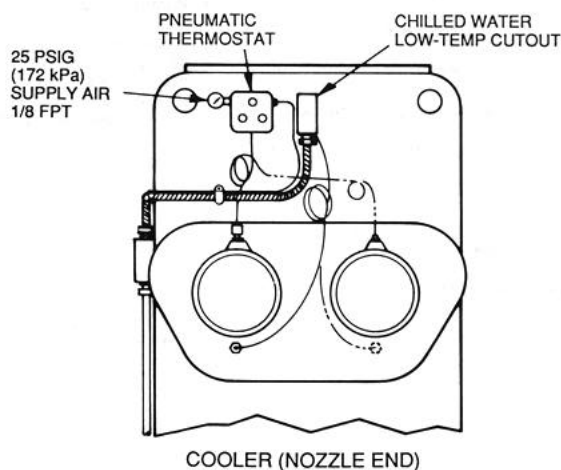
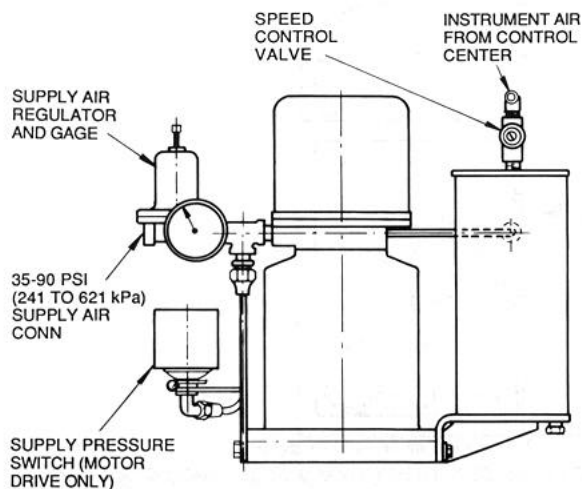

Fig. 9 – Field Connection to Pneumatic Thermostat
Fig. 11 – Air Supply Connection to Pneumatic Guide Vane Actuator
Air Supply — Machines with pneumatic capacity control require clean, dry air at 25 psi (172 kPa) for the pneumatic thermostat (Fig. 9) and the electro-pneumatic (EP) relay (Fig. 10), and 35 to 90 psi (241 to 621 kPa) supply air for the guide vane actuator (Fig. 11). Provide 200 standard cubic inches per minute (scim) [.008 m³/sec] total air volume for the thermostat, relay, and actuator.